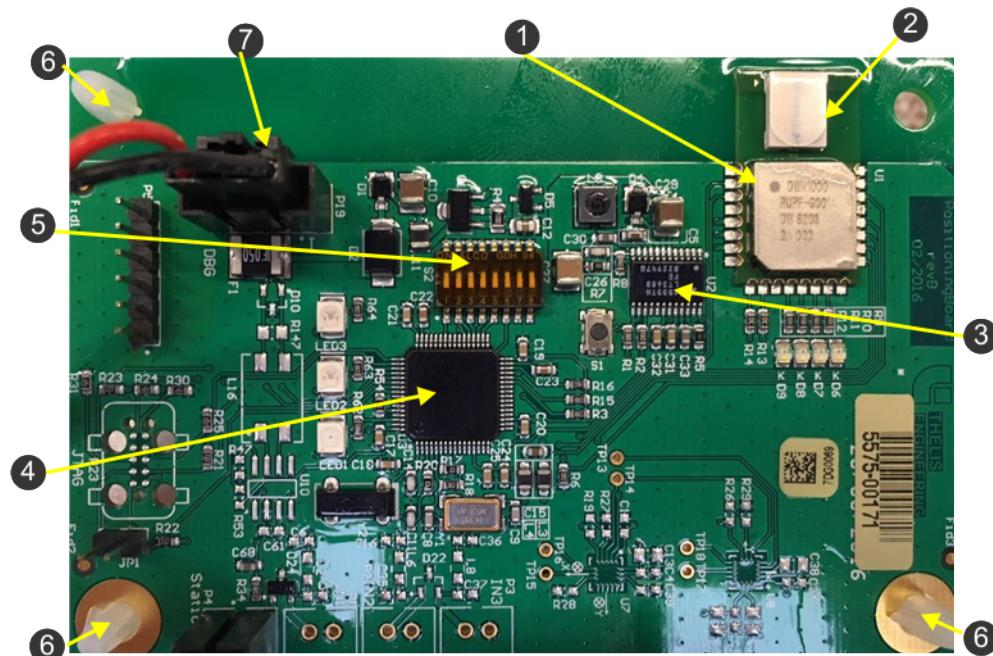

Figure 66: Components on the positioning signal board
5. The board must be located on the three supports shown in *Figure 66: Components on the positioning signal board* (page 63).